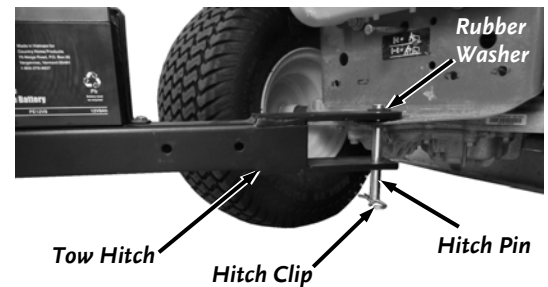

Figure 62
1. Make sure you firmly attach the DR LEAF and LAWN VACUUM Hitch to your Lawn Tractor using the Hitch Pin and Hitch Clip (**Figure 62**).